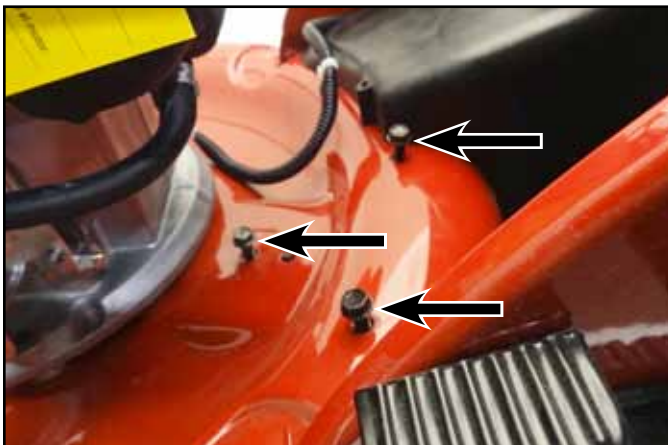

Fig. 157
2. Remove (3) belt cover screws and belt cover (Fig. 157).